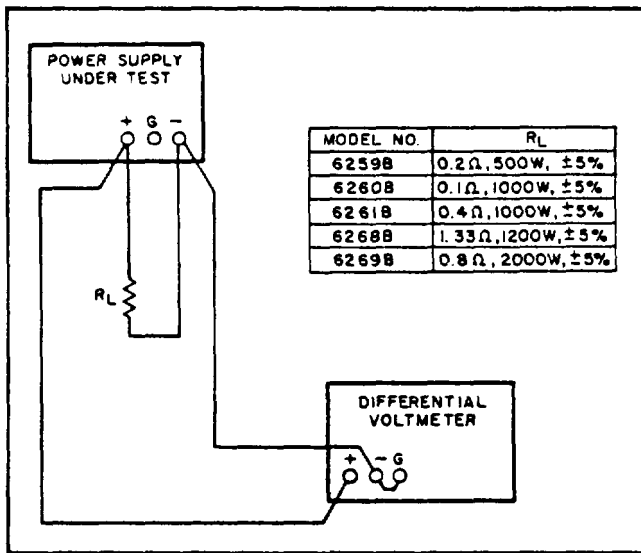

Figure 5-2. Constant Voltage Load Regulation Test Setup
- a. Connect load resistor (RL) indicated in Figure 5-2 across output terminals of supply.
a. Connect test setup shown in Figure 5-2.
- a. Connect load resistance and differential voltmeter as illustrated in Figure 5-2.